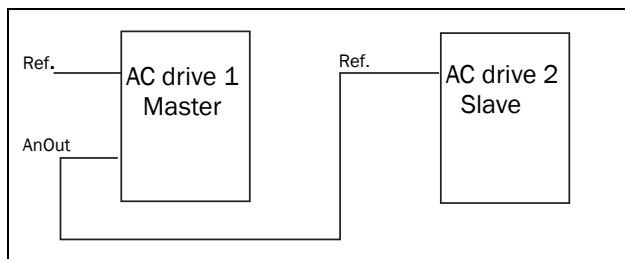

Fig. 108
- a reference signal for the next AC drive in a Master/Slave configuration (see Fig. 108).